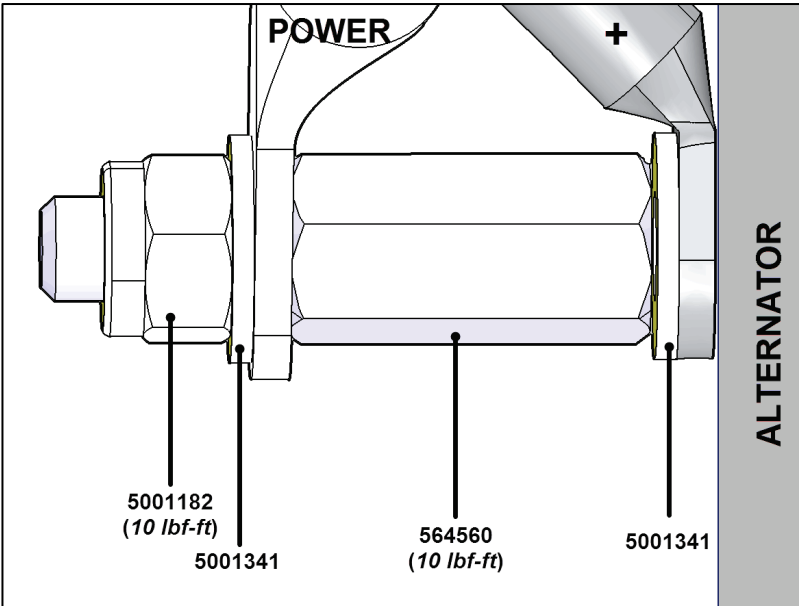

Figure 2
2. Apply prescribed torque. (Fig. 2)